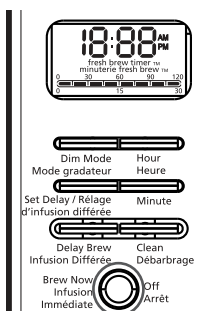

FIGURE 7
1. After completing the steps in the Adding Water and Coffee section and with the decanter and the filter basket securely in place, turn the coffeemaker on by pressing the **BREW NOW** button once (Figure 7). The **BREW NOW** light will turn on and pulse to signal that the coffeemaker is on and brewing.
The Fresh Brew™ Timer feature lets you know how long your coffee has been waiting for you. At the start of the brew cycle, the Fresh Brew™ Timer feature will automatically be activated. The timer will appear in the lower part of the display under the clock (Figure 7). This display will be visible any time you are brewing coffee. The display will change to show the time since brewing began in 15 minute intervals.